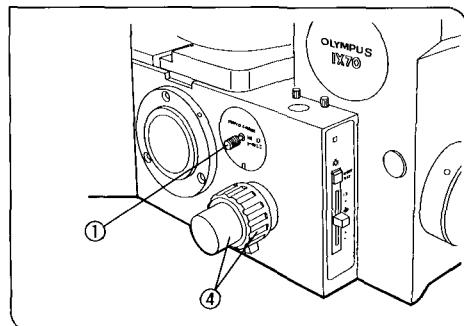

Fig. 67
1. Pull out the photo frame ① to engage the photo mask into the light path. (Fig. 67)
3. Looking through the left-hand light path's eyepiece, turn the diopter adjustment ring ③ on the eyepiece until the reticles in the center of the photo mask are seen as two distinct sets of reticles in the field of view.
4. Rotate the coarse and fine adjustment knobs ④ to bring the specimen into focus. (Fig. 67)